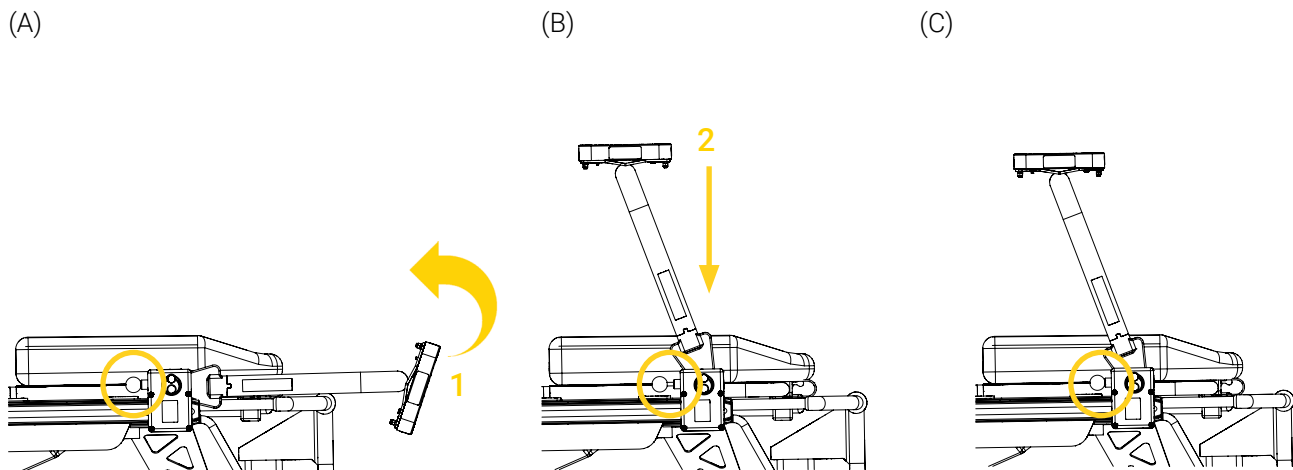

Figure 16: Lifting the SAS 500
2. Pull and hold the quick release knob of the clamp block to disengage the safety mechanism, then rotate the SAS 500 upwards to the vertical position (Figure 16 A).
3. Push the tubular arm downwards to insert the triangular head in the clamp block (Figure 16 B), then release the knob (Figure 16 C).